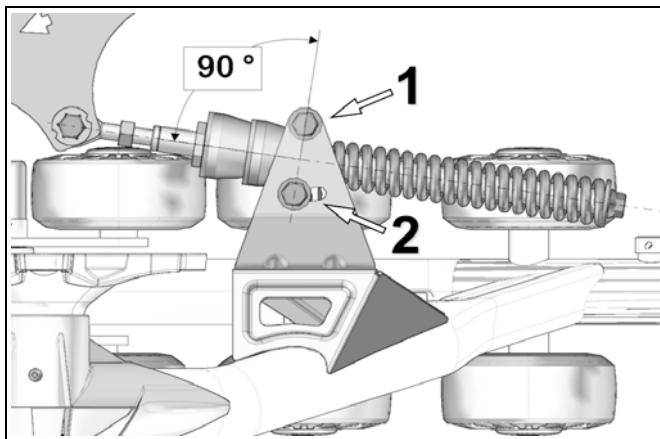

Figure 12
- Position the anti-rotation retainer plate at 90° (perpendicular) with the stabilizing rod. Tighten the two anti-rotation bracket mounting bolts (1 and 2) to 50 N·m of torque. Refer to Figure 12.